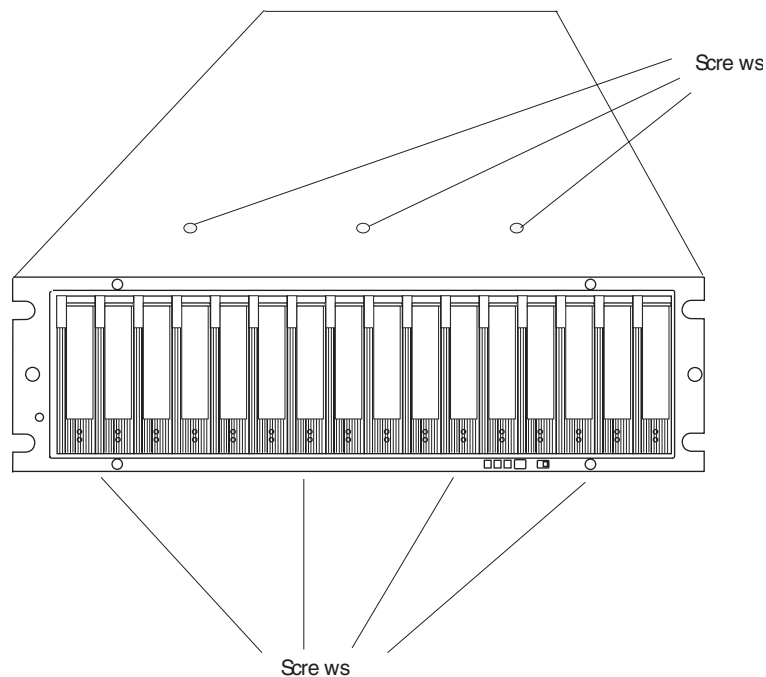

Figure 87. Screws holding the top and bottom sides of the chassis to the cage frame
Pull the chassis outward from the front of the rack and remove from the rack. Place it on a level surface. Look for a row of three Phillips screws on top of the chassis and a row of four Phillips screws on the bottom of the chassis, as shown in Figure 87. Remove the seven Phillips screws using the #1 Phillips screwdriver. Save these screws.
17. Install the seven Phillips screws (three on top and four on bottom) that hold the front cage frame to the EXP810 chassis that you removed in step 12 on page 150, as shown in Figure 87 on page 151.